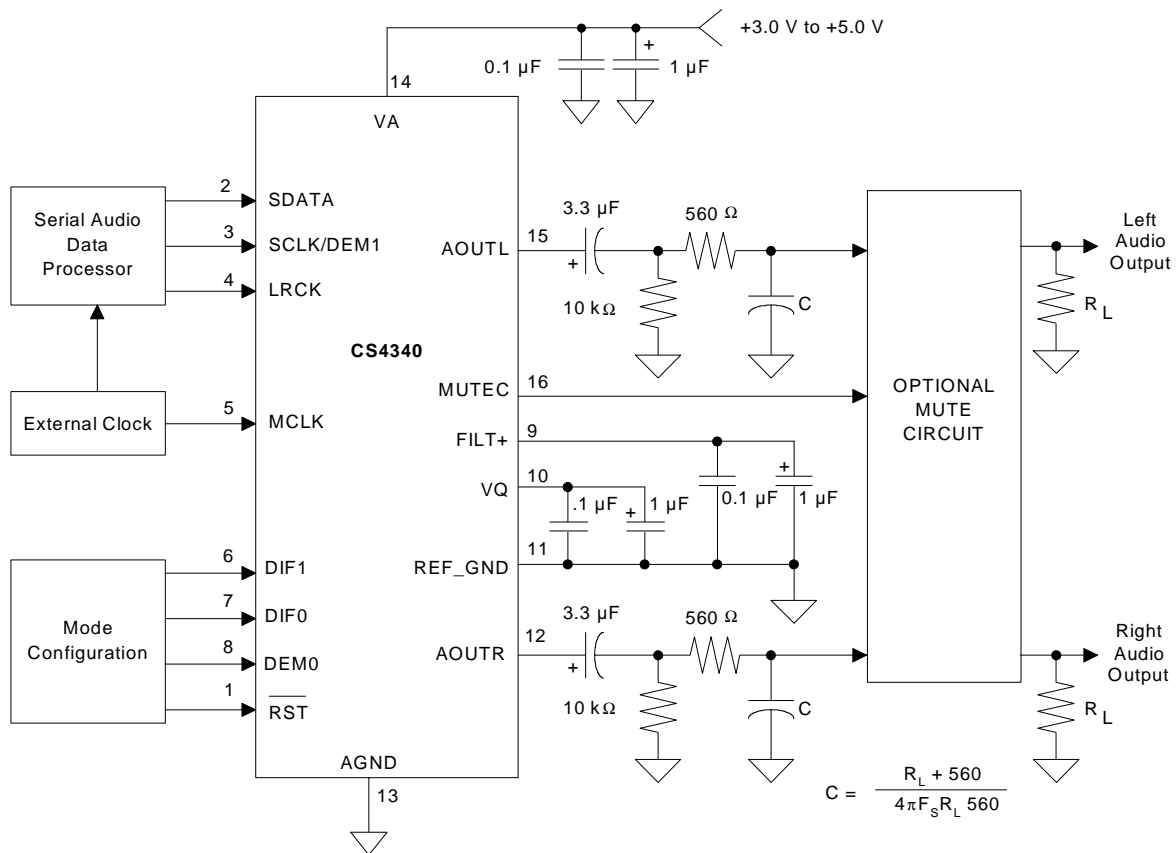

Figure 14. Typical Connection Diagram
10. Valid with the recommended capacitor values on FILT+ and V_Q as shown in Figure 14. Increasing the capacitance will also increase the PSRR.
As with any high resolution converter, the CS4340 requires careful attention to power supply and grounding arrangements if its potential performance is to be realized. Figure 14 shows the recommended power arrangements, with VA connected to a clean supply. If the ground planes are split between digital ground and analog ground, REF_GND & AGND should be connected to the analog ground plane.